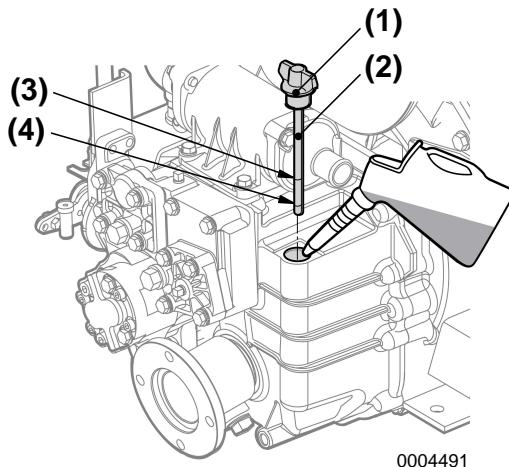

Figure 10
2. Remove the filler cap (**Figure 10, (1)**) at the top of the housing.
3. Remove dipstick (**Figure 10, (2)**) and wipe with clean cloth.
5. Remove dipstick. The oil level should be between upper (**Figure 10, (3)**) and lower (**Figure 10, (4)**) lines on the dipstick.
2. Remove the filler cap at the top of the housing (**Figure 10, (1)**).
3. Fill with oil to the upper limit on the dipstick (**Figure 10, (3)**). See *Marine Gear Oil Specifications* on page 34.